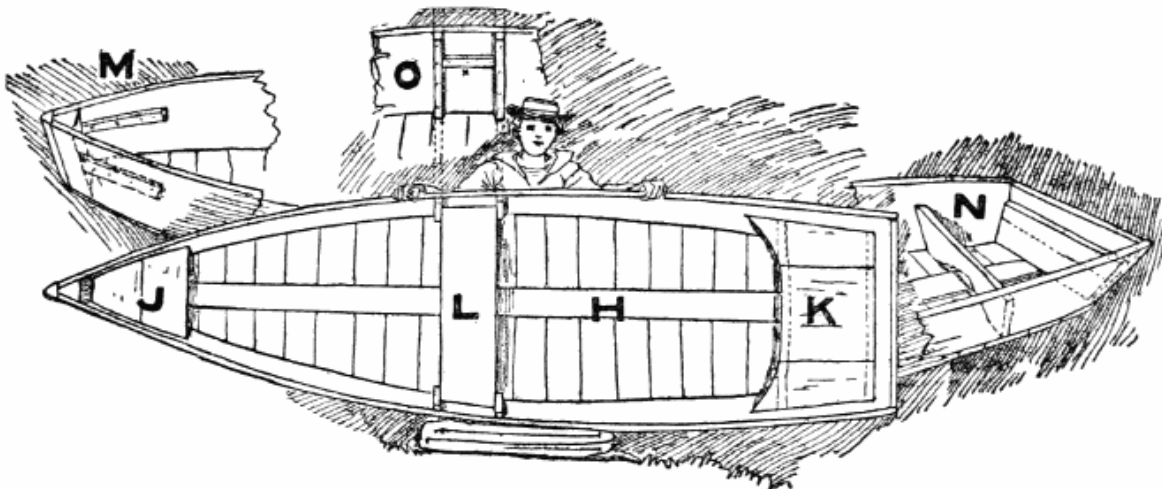

Fig. 197.—Details of bow, stern, seats, and finished boat.
consist of a triangular one at the bow (J), the oarsman's seat (L), and the stern seat (K, Fig. 197). The bow seat is made of 1-inch boards nailed to two cleats shown at M (Fig. 197). N shows the bench for the stern seat and O explains the arrangement of the oarsman's seat a little forward amidship. As may be seen, it rests upon the cleats x (diagram O, Fig. 197), which are fitted between two upright cleats on each side of the boat; this makes a seat which will not slip out of place, and the cleats serve to strengthen the sides of the otherwise ribless boat. Make the cleats of 1 by 2 inch lumber and let the seat be about 12 inches wide. The stern seat may be wider, 1½ feet at K and 4 or 5 inches more at the long sides of the two boards each side of K (Fig. 197). Of course, it is not necessary to fit a board in against the stern-piece, for a cleat will answer the purpose, but a good, heavy stern-piece is often desirable and the board shown in diagram N (Fig. 197) will serve to add strength to the stern as well as to furnish a firm rest for the stern seat, but it will also add weight.
is an advisable addition to the boat, but may also be omitted without serious results (H, Fig. 197).